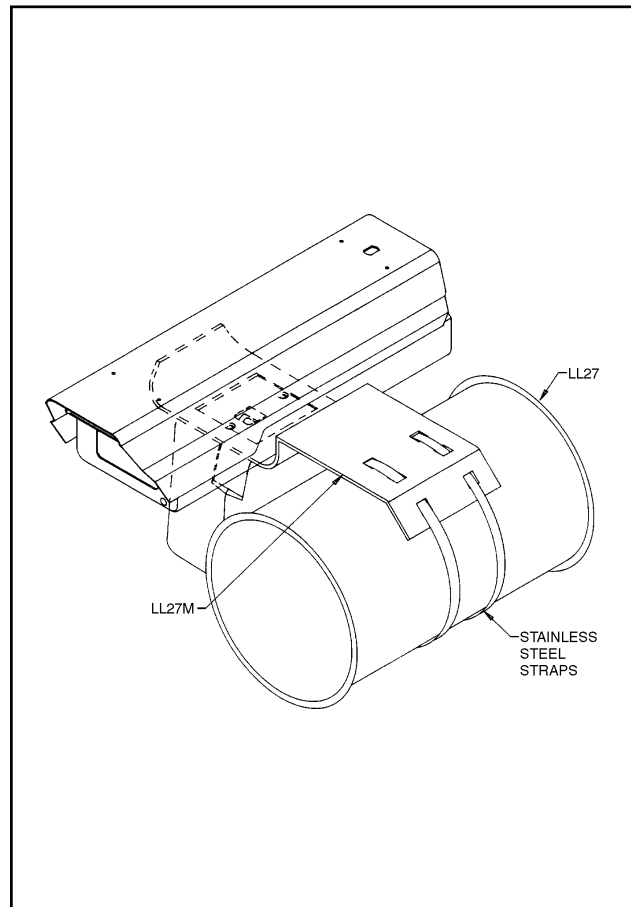

Figure 2. LL27LM Mounting Bracket Installation
1. Feed the stainless steel mounting straps (provided with the LL27 illuminator) through the guide holes of the mounting bracket as shown in Figure 2.